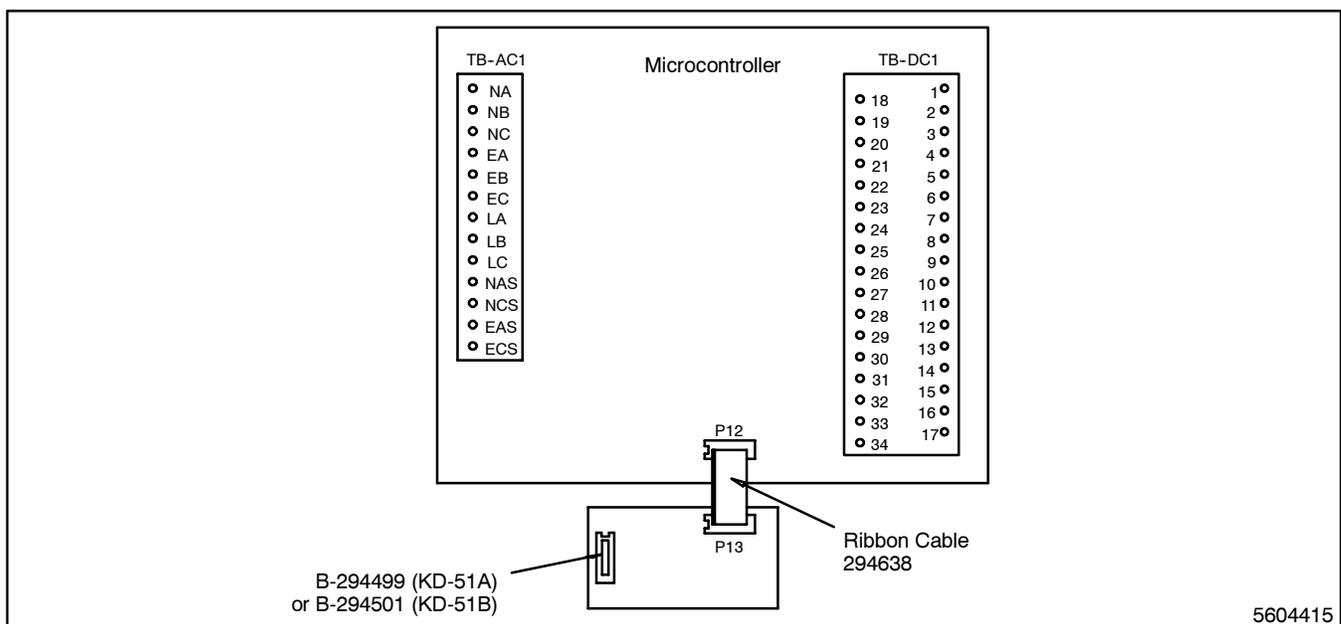
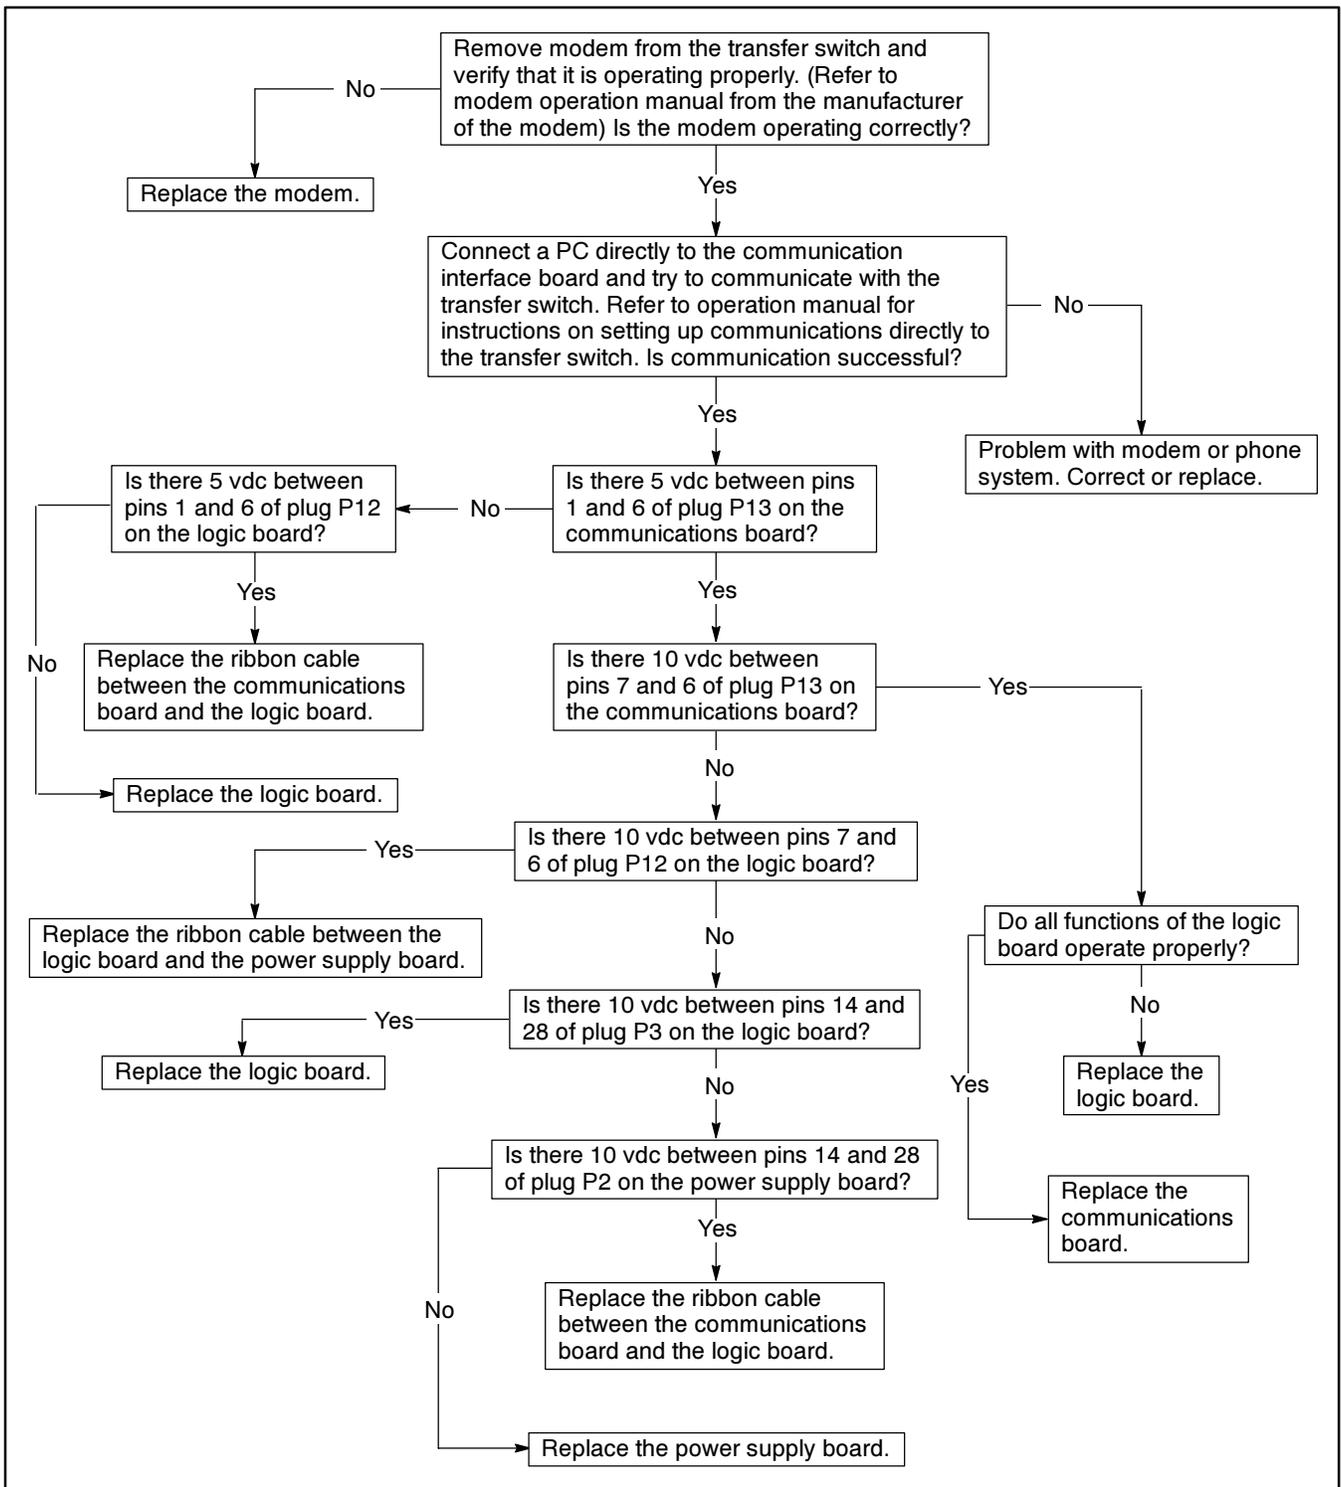

Figure 5-78. Wiring Diagram—Option KD-51-A and KD-51-B, Remote communications board
Figure 5-79. Troubleshooting—Option KD-51-A and KD-51-B, Remote communication is not functioning properly
See Figure 5-78 for a wiring diagram for this accessory and Figure 5-79 for the troubleshooting flowchart.
- 1. Check the voltage at P13-1 on the Remote Communication board. See Figure 5-78. Using a voltmeter, connect the positive test lead to P13-1 on the Remote Communication board. Connect the negative test lead to P13-6. The voltmeter should read five volts DC.